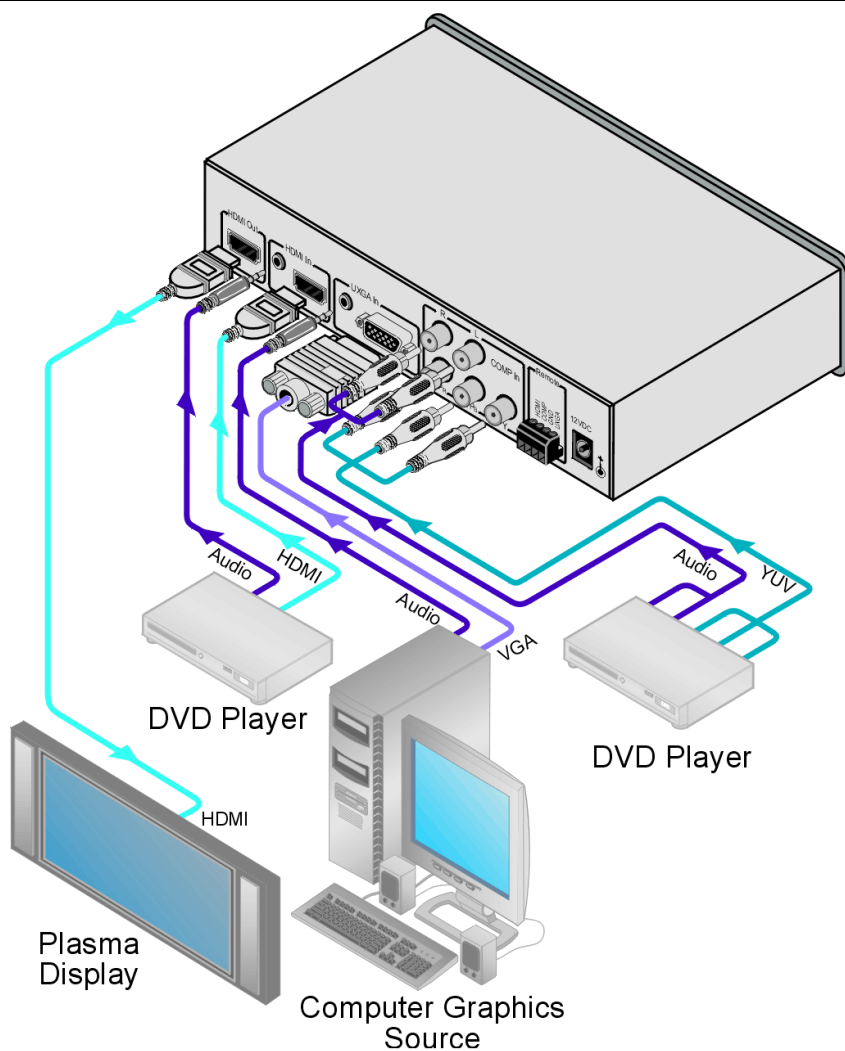

Figure 2: Connecting the VP-435 Component / UXGA HDMI Scaler
To connect¹ your **VP-435**, as illustrated in the example in Figure 2, do the following:
5. Connect the 12V DC power adapter to the power socket and connect the adapter to the mains electricity (not shown in Figure 2).